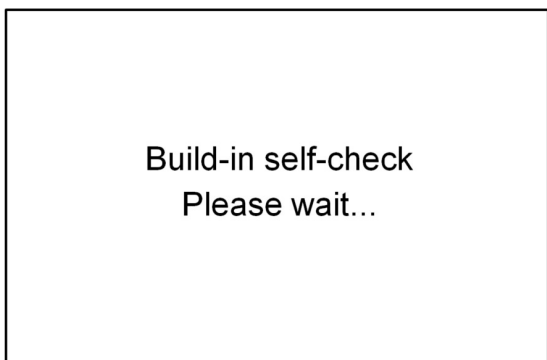
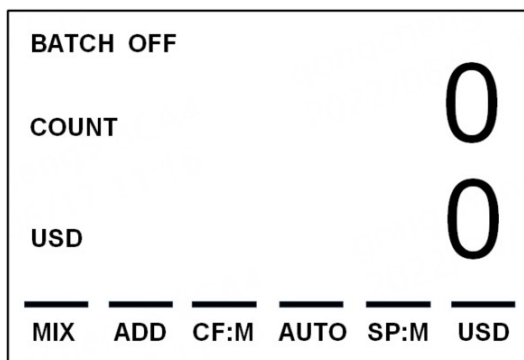

Figure 5
Figure 6
3) Connect the machine to the power supply and turn on the switch. First, the machine enters the loading interface. After loading, the machine enters the self-test interface, as shown in Figure 5 below. After successful self-test, the machine enters the main interface, as shown in Figure 6 below: